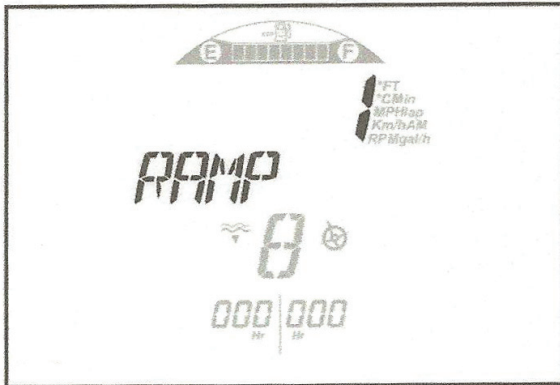

Figure D11: RAMP Displayed (Ski Model)
- b. Press the SET button once to enter SKI MODE. The RAMP indication will be displayed. See Figure D11.